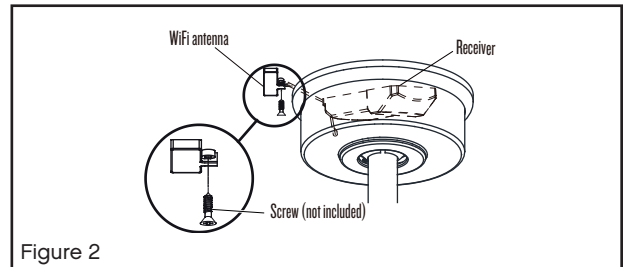

Figure 2
- 3 Loosen the security set screw and remove the downrod pin and cotter pin from the coupler on top of the motor assembly. (Fig. 2)
- 2 Seat the cradle A into the wall plate. (Fig. 2)
-  Signal light (Fig. 2)